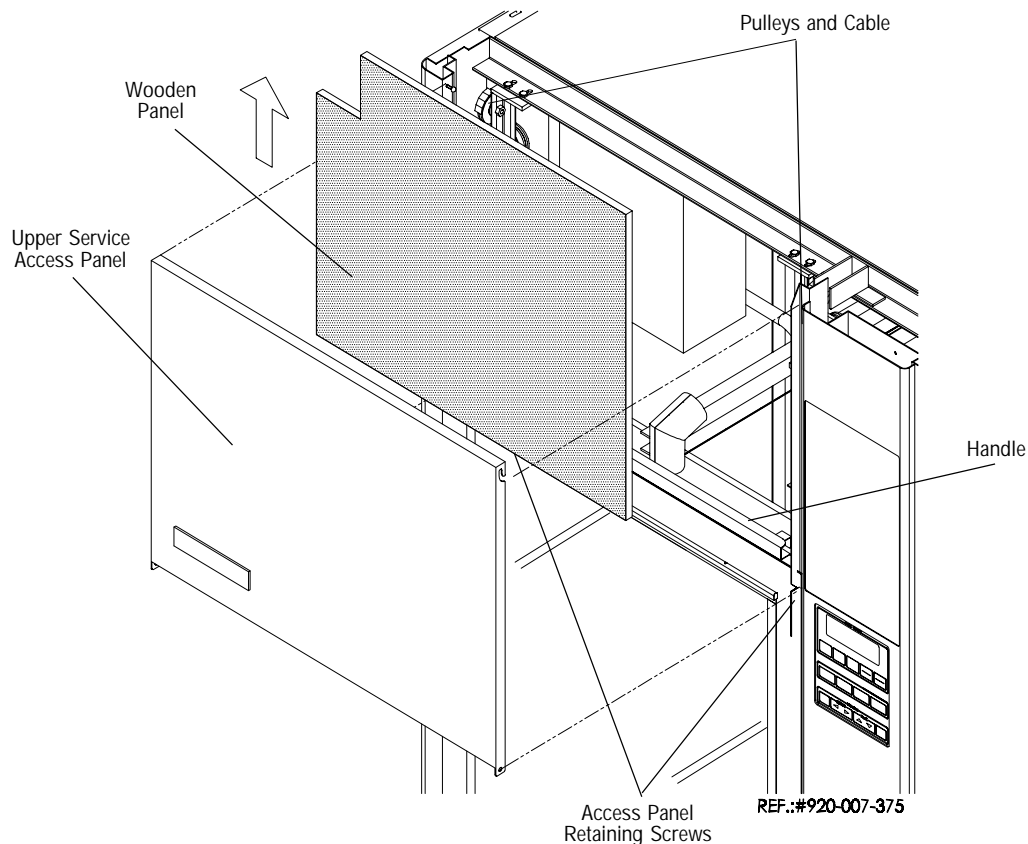

Figure 2-6. Remove Wooden Panel
1. Remove screws from bottom right and left hand corners of the upper service access panel(s) (see Figure 2-6).